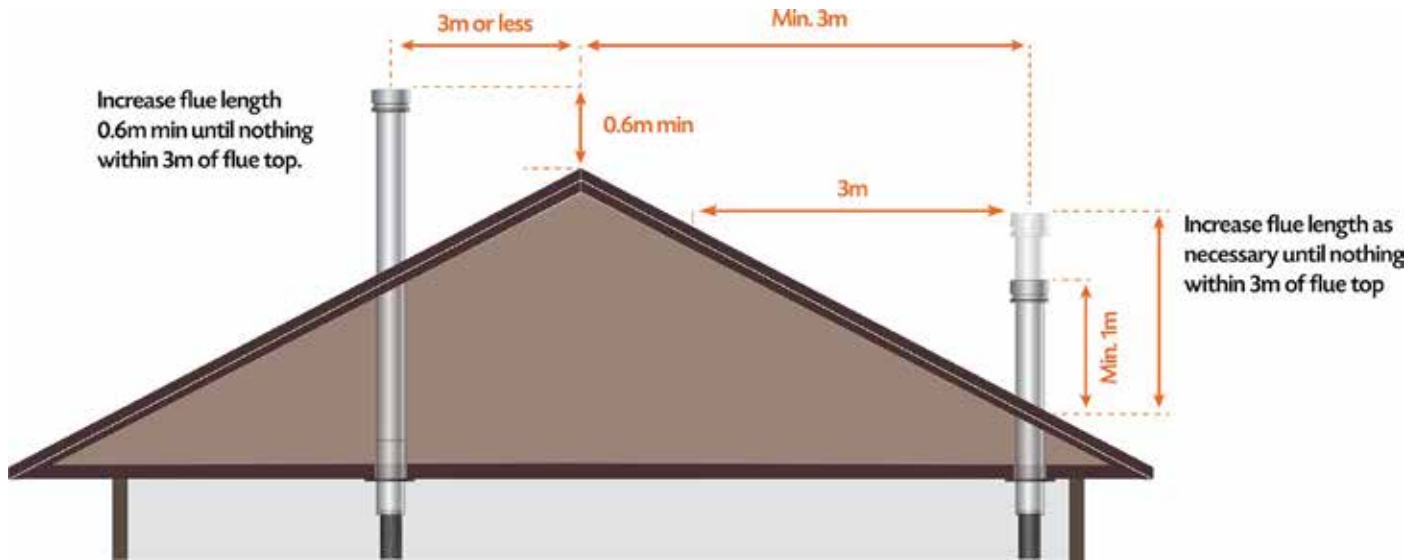

FIGURE 1
7. Add the remaining casings to the required height. Australian/New Zealand Standards state that “the flue pipe shall extend not less than 4.6m above the top of the floor protector”. If the flue pipe is within 3 metres of the ridge, the flue pipe must protrude at least 600mm above the ridge of the roof. If the distance from the ridge is more than 3 metres, the flue pipe must protrude at least 1000mm above roof penetration. Additional lengths of casing and flue may be required to achieve this. The flue pipe must be more than 3 metres from any nearby structure. Other clearances may be applicable, it is up to the installer to ensure compliance with all regulations. See Figure 1 and 2 on P7.